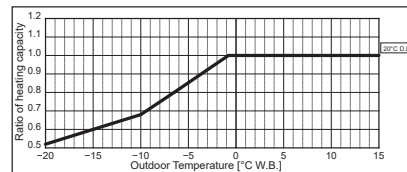

Figure 5 Outdoor unit temperature correction
(5) Outdoor Unit Correction Calculation
- Outdoor Design Wet Bulb Temperature Correction (2°C)      1.00 (Refer to Figure 5)